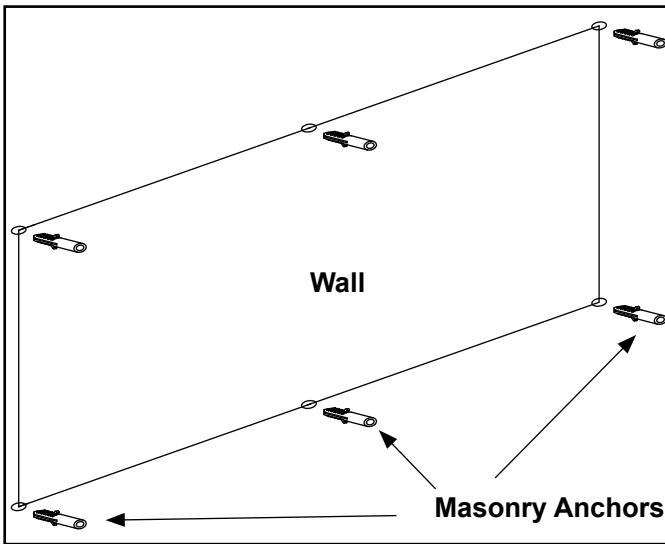

Figure 4.7 Masonry Anchor Placement
- In the marked locations, drill 5/16 in. diameter x 1-1/2 in. deep holes. See Figure 4.7.